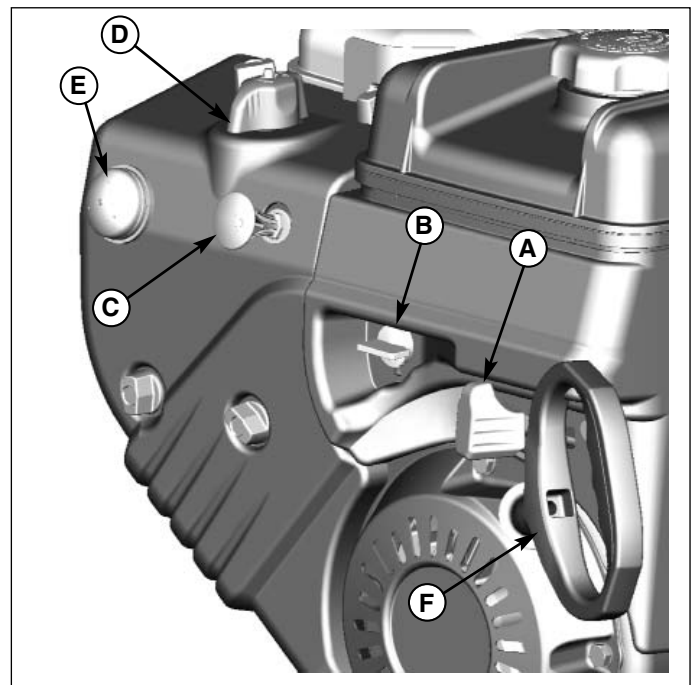

Figure 2. Start/Stop Engine - Manual
3. Move the throttle control lever (A, Figure 2) to the FAST position. Operate the engine with the throttle control lever in the FAST position.
- Turn the fuel shut-off valve (B, Figure 2), if equipped, to the ON position.
- Push in the safety key (C).
- Turn the choke control knob (D) to the choke position.
- Push the primer button (E) two times.
- Rewind Start:** Firmly hold the starter cord handle (F). Pull the starter cord slowly until resistance is felt, then pull rapidly.
- Move the throttle control lever (A, Figure 2) to SLOW and then to the STOP position.
- Remove the safety key (C). Keep the safety key out of the reach of children.
- After the engine stops, turn the fuel shut-off valve (B) to the CLOSED position.